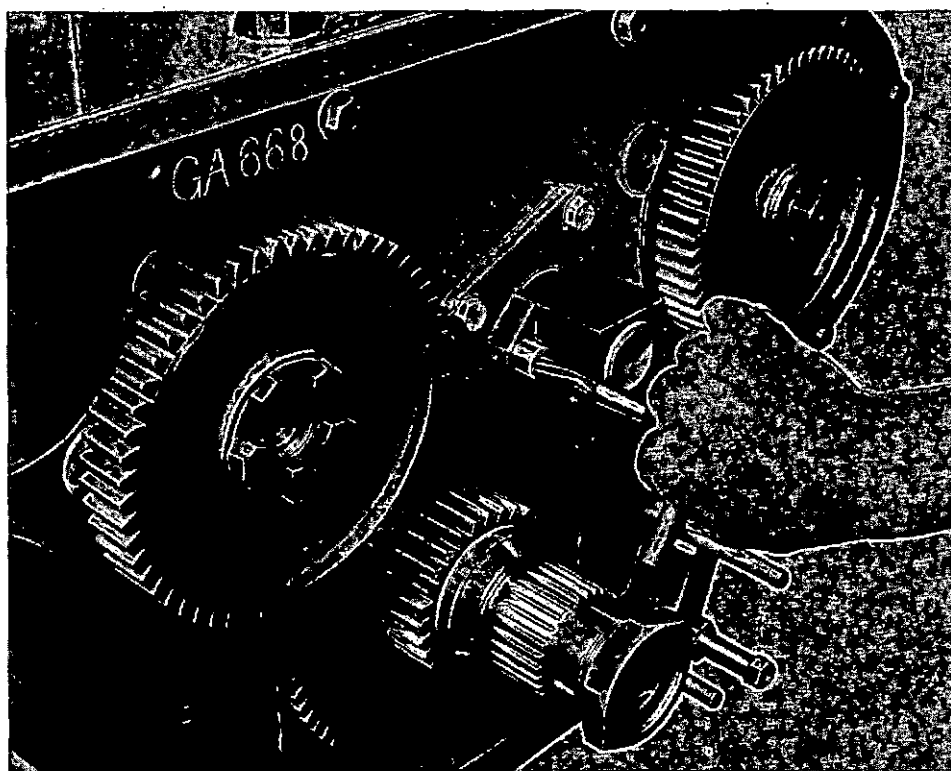

Fig. 3 Reaming dowel holes—idler gear axle
1. With the engine in running position, fit the backplate stiffening frame GA.668 (fig. 3).
3. Taking care not to disturb the axle, remove the idler gear and tighten the axle setbolts. Ream the dowel holes as follows, using jig GA.338 and reaming kit GA.470 (fig. 3).